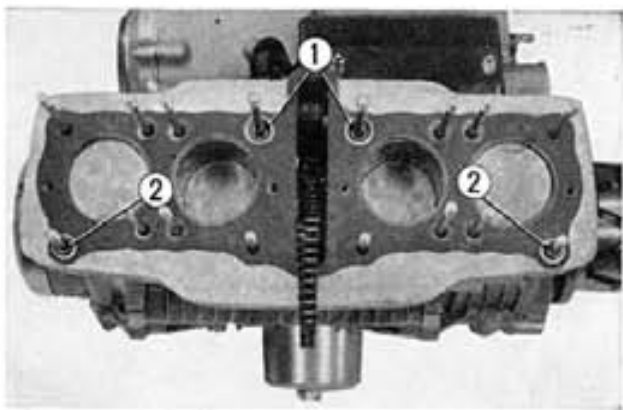

Fig. 3-37 ① "O" rings
3. On the cylinder gasket flange, assemble the two dowel pins, two O rings and the cylinder gasket, and then mount the cylinder head followed by installing and torquing the mounting nuts and bolts in accordance with Fig. 3-38. Torqued the nuts to 13.7~15.2 ft-lbs. (1.9~2.1 kg-m.) (Fig. 3-37, 38)